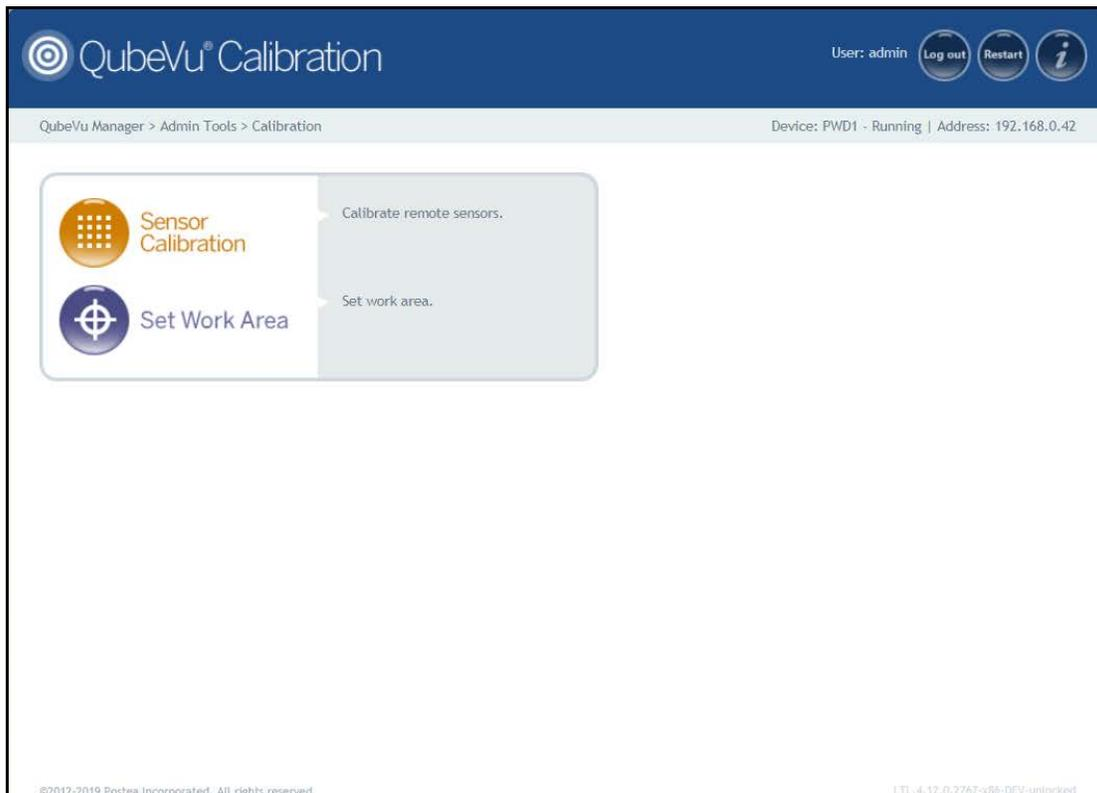

Figure 7-1. Calibration Menu
1. Press  from the **Calibration** menu (Figure 7-1 on page 38) to enter the **Remote Sensors Calibration** menu.
- Press  **Set Work Area** from the **Calibration** menu (Figure 7-1 on page 38) to enter the **Set Work Area** menu.